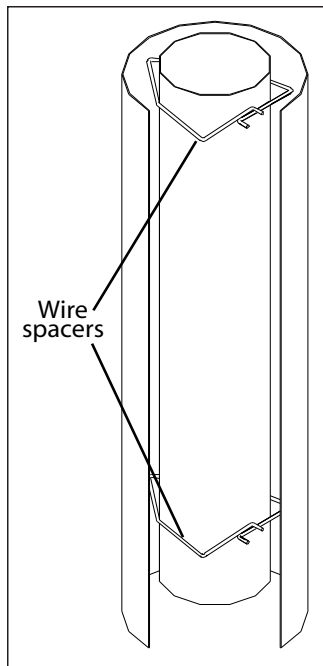

Figure 20.1: Wire Spacers.
8. Slide the Ø6⁵/₈" (16.25 cm) flex intake liner over the flex vent. Install four (4) wire spacers around the flex pipe. Ensure the wire spacers are positioned at either end of the pipes, and at each end of any elbows in the liners (refer to Figure 20.1 and 20.2).